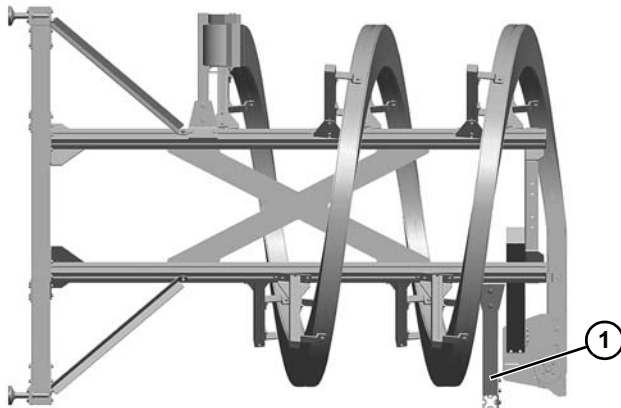

Figure 2
1. Conveyor is shipped on its side. Remove hardware securing shipping brace (**Figure 2, item 1**) to the shipping crate/pallet.